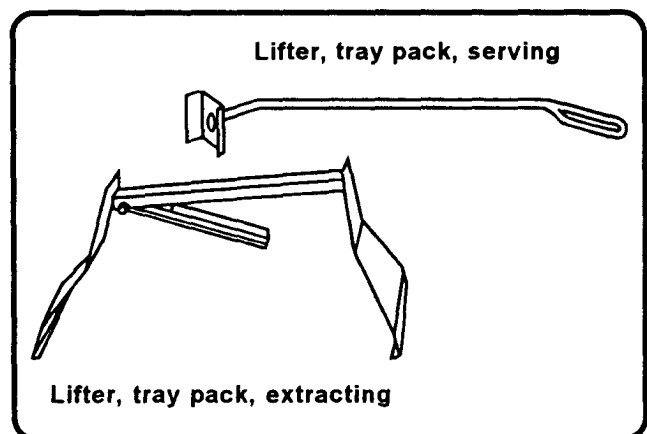

Figure 9-17. Lifter, tray pack, extracting and lifter, tray pack, serving
**Tray pack lifter, extracting.** The tray pack lifter, extracting, (Figure 9-17) is the long-handled utensil used to remove tray packs from the hot water.
**Tray pack lifter, serving.** The tray pack lifter, serving, (Figure 9-17) is the utensil which clamps on either side of the tray pack. This utensil is used to move a hot tray pack, once it has been opened, to the serving line.